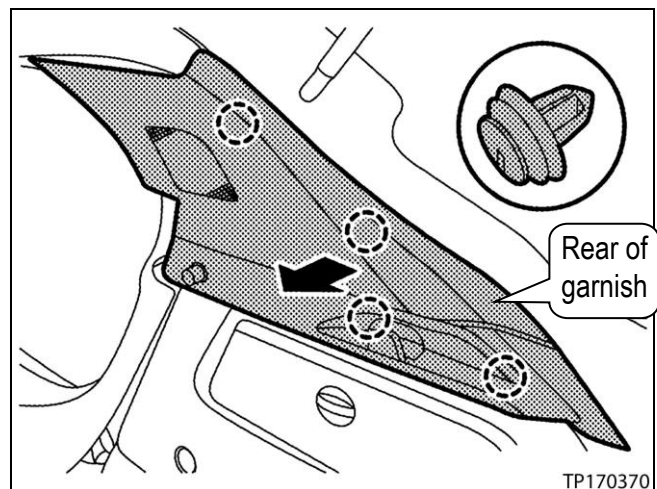

Figure 5
- c. Unfasten all rear pillar garnish clips and pawls, starting at the rear (see Figure 5 and 6).